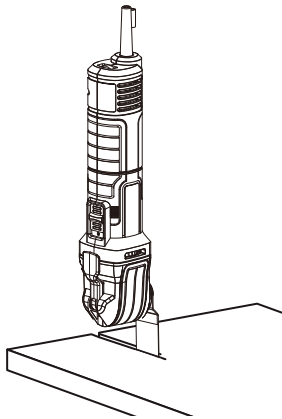

Fig. 17
- > When using the plunge saw blade (8/10), lift the saw blade/product from the workpiece and repeat the cutting steps as mentioned above (Fig. 17).